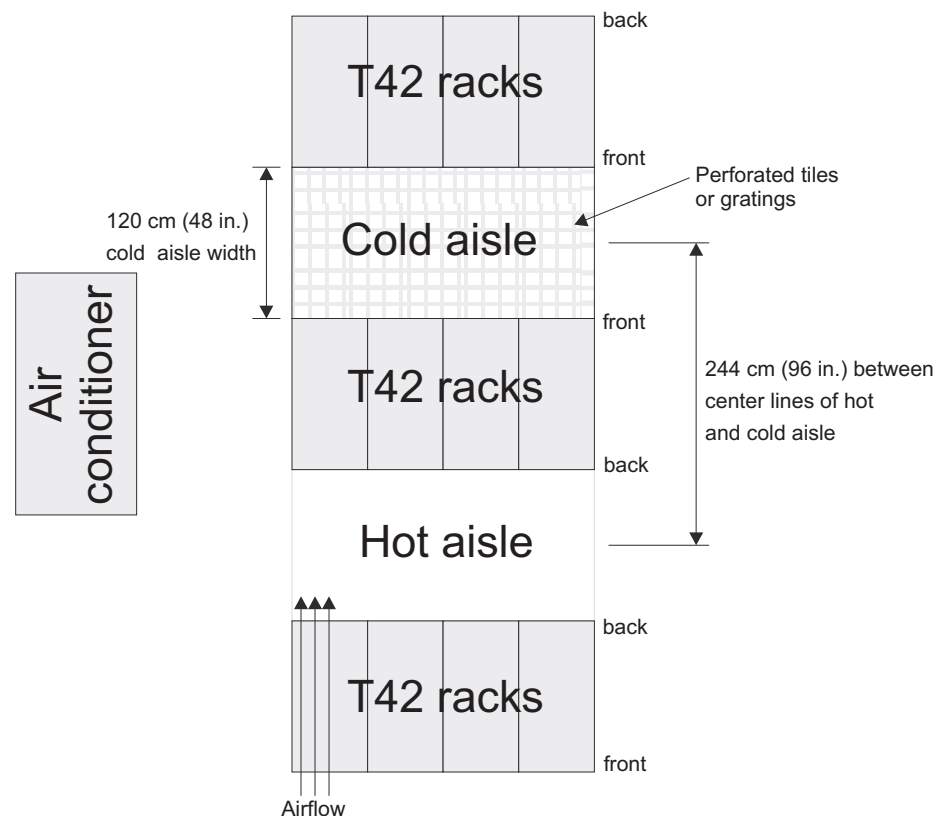

Figure 15. Example of cold aisle/hot aisle rack configuration
- Air enters at the front of the rack and leaves at the back. To prevent the air that is leaving the rack from entering the intake of another piece of equipment, you must position the racks in alternate rows, back-to-back and front-to-front. This arrangement is known as “cold aisle/hot aisle” and is shown in Figure 15.
- Where racks are in rows front-to-front or back-to-back, gaps of at least 122 cm (48 in.) must separate the rows across the cold aisle (see Figure 15).